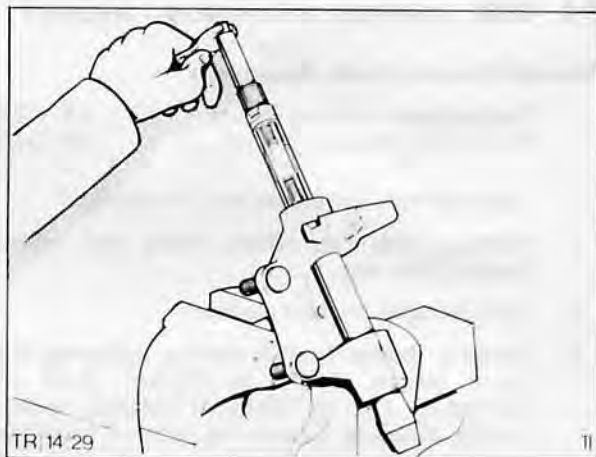

Fig. 29. Reaming stub axle bushes
9. Fit reaming guide to the underside of the lower bush hole and pass reamer through the stub axle bushes. The reamer should be lubricated with clean oil to ensure a smooth finish is obtained, Fig. 29.